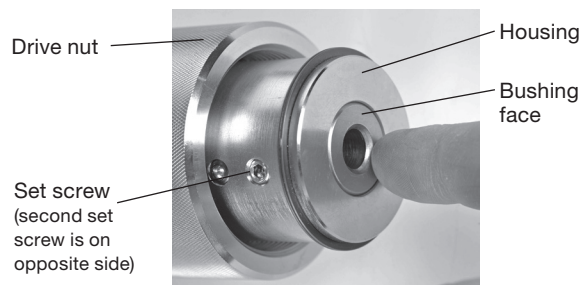

Fig. 11 Installing the coning tool bushing
5. Tighten the two 1/4 in. set screws. (Fig. 11)